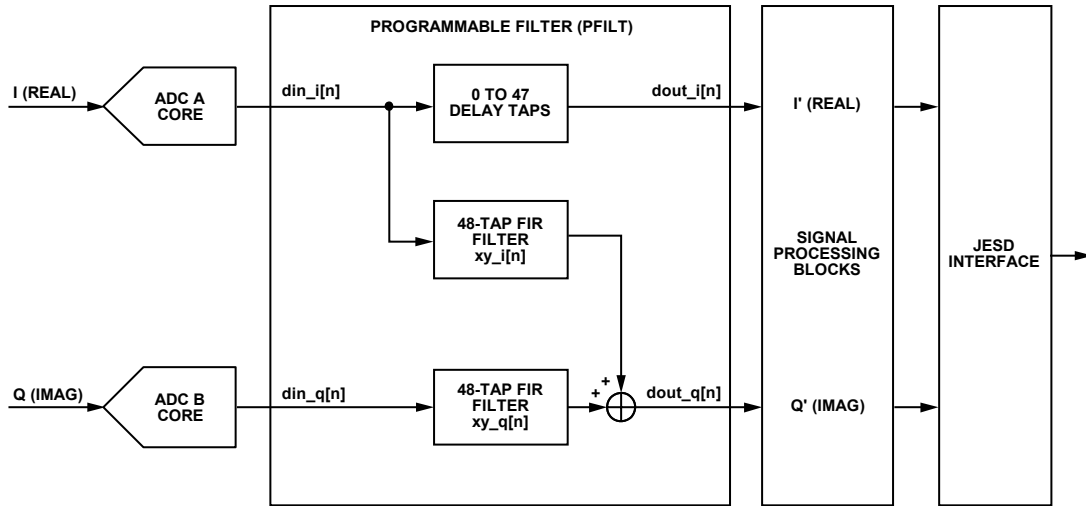

Figure 69. 48 Half Complex Filter Configuration
- Half complex filter using two real 48-tap filters for the I/Q channels (see Figure 69)